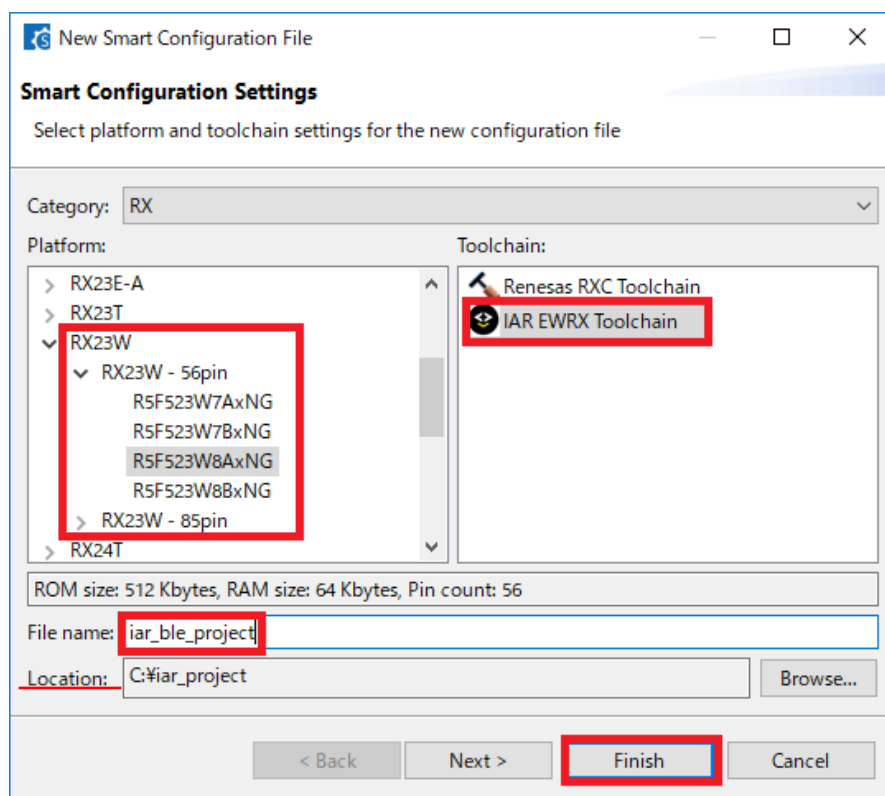

Figure 4-40 : RX Smart Configurator New Project settings
- Copy the “iccrx” directory included in `\src\smc_gen\r_bsp\mcu\rx23w\register_access` which is in the RX Smart Configurator project location directory (refer Figure 4-40) to `\src\smc_gen\r_bsp\mcu\rx23w\register_access` which is generated according to 4.9.1.
(2) Copy from the FITDemos